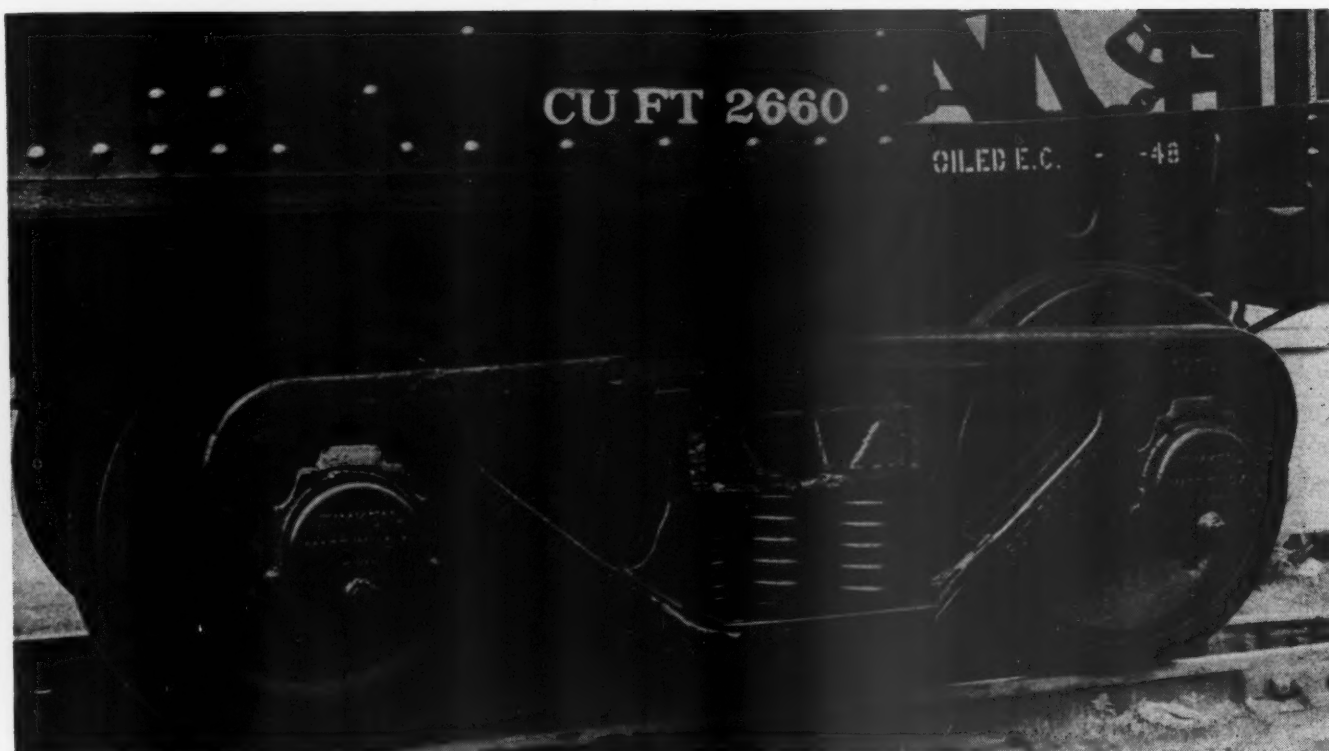

Fig. 6—A.A.R. pedestal type side frame with wide opening
A.A.R. standards adopted in 1947 include the use of a pedestal type frame having a wide jaw opening⁶ as shown in Fig. 6. The journal box assembly, frame jaw and axle journal are oversize considering operating requirements in ordinary freight service as compared with an adequate and less expensive design in Fig. 1 through Fig. 4.